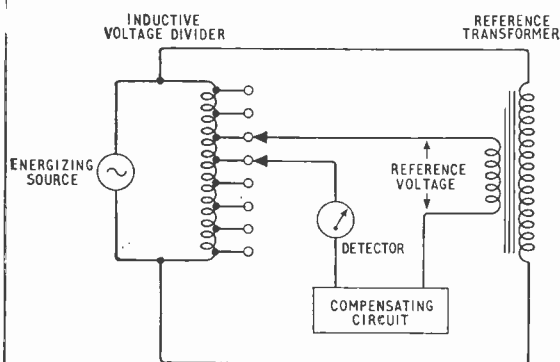

Fig. 3. Reference voltage method for calibrating an inductive voltage divider.
**Calibrating inductive voltage dividers** by an apparatus giving extremely high accuracy was described by a speaker from the Laboratory of Electricity and Magnetism, Chinese Institute of Metrology, Peking. The calibration errors at 1,000 c/s were stated to be a voltage ratio error of less than  $3 \times 10^{-9}$  and a phase angle error of less than  $3 \times 10^{-8}$  radian (referred to the voltage divider input signal). The calibration technique is based on the use of a reference voltage and is shown in principle in Fig. 3. The reference voltage is obtained from the secondary of a transformer whose primary is fed from the same a.c. source that energizes the inductive voltage divider. Thus any variations in the energizing source affect the divider voltages and the reference voltage equally, and this effect is cancelled out. Voltages from the various tappings on the divider are balanced against the reference voltage by a compensating circuit to give a null indication on the detector. This compensation is actually provided by a controllable proportion of the signal voltage from the energizing source, obtained through an auxiliary i.v.d. and a transformer. The high accuracy is the result of various precautions for maintaining constant the voltage ratio of the reference transformer. This transformer is constructed in two sections, is extensively screened to reduce magnetic leakage to a minimum, and, during calibration, the transformer screen is maintained at the same potential as the secondary winding. As a result of these measures the relative stability of the reference voltage is said to be better than 1 part in  $10^{-6}$  per hour.